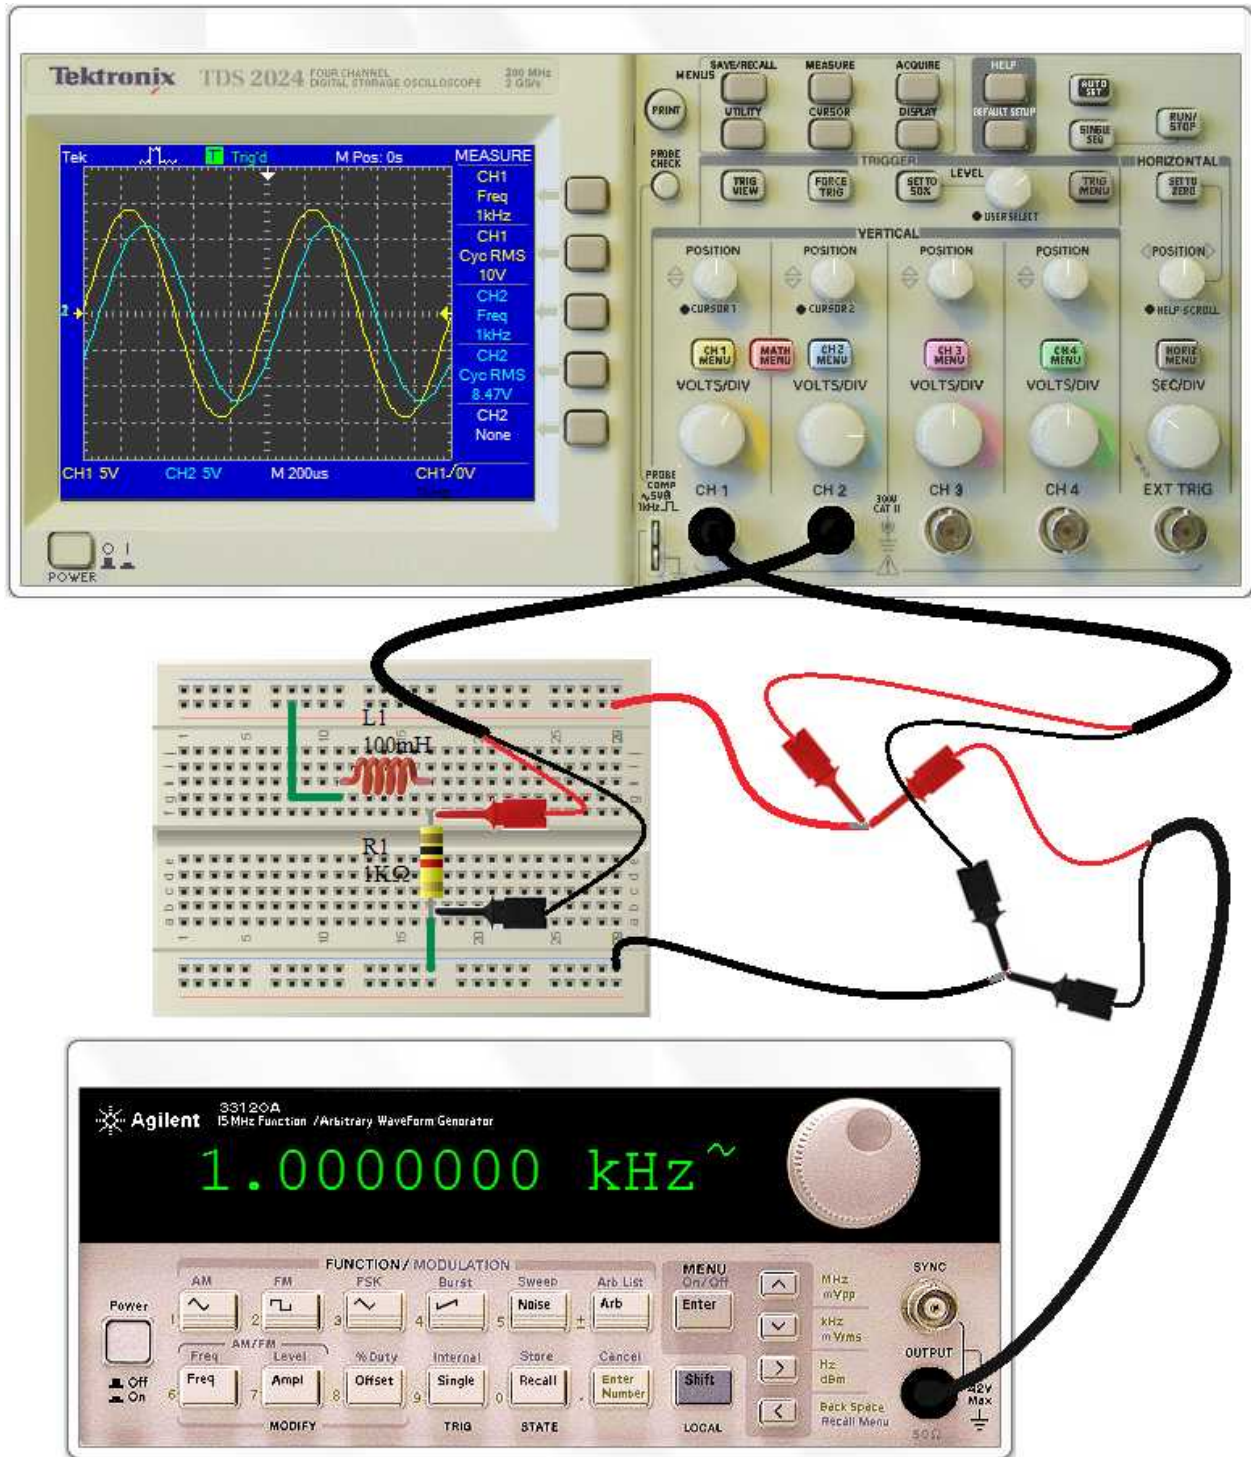

Figure 3-12: RL low-pass filter circuit, real world circuit connection
2. Construct RL low pass filter circuit as illustrated in circuit connection figure 3-12.